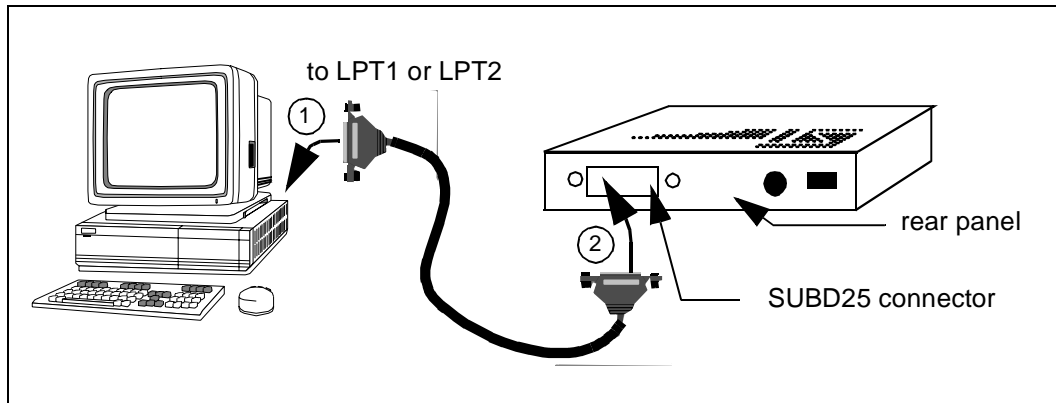

Figure 4: Connecting the emulator to the PC
- 2 Connect one end of the parallel cable to the emulator’s rear panel 25-pin SUB-D connector and the other end to one of the PC’s parallel ports (LPT1 to LPT2)—refer to *Figure 4*.